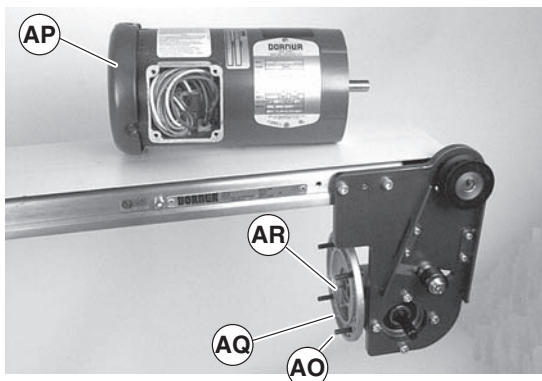

Figure 33
4. Remove four screws (Figure 33, item AO). Detach motor (AP) from gear reducer (AQ). Retain motor output shaft key (AR).